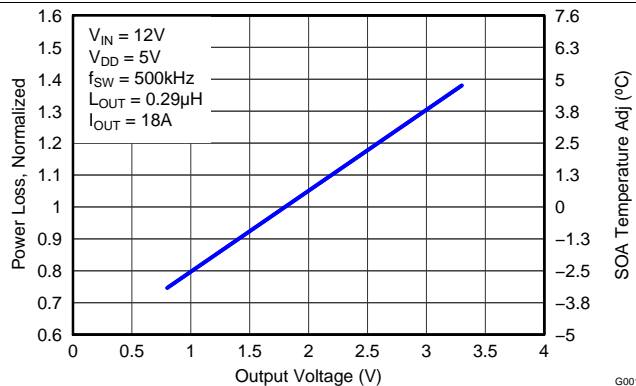

Figure 7. Normalized Power Loss vs Output Voltage
- Normalized Power Loss for output voltage ≈ 0.92 (Figure 7)
- SOA adjustment for output voltage $\approx -0.9^\circ\text{C}$ (Figure 7)